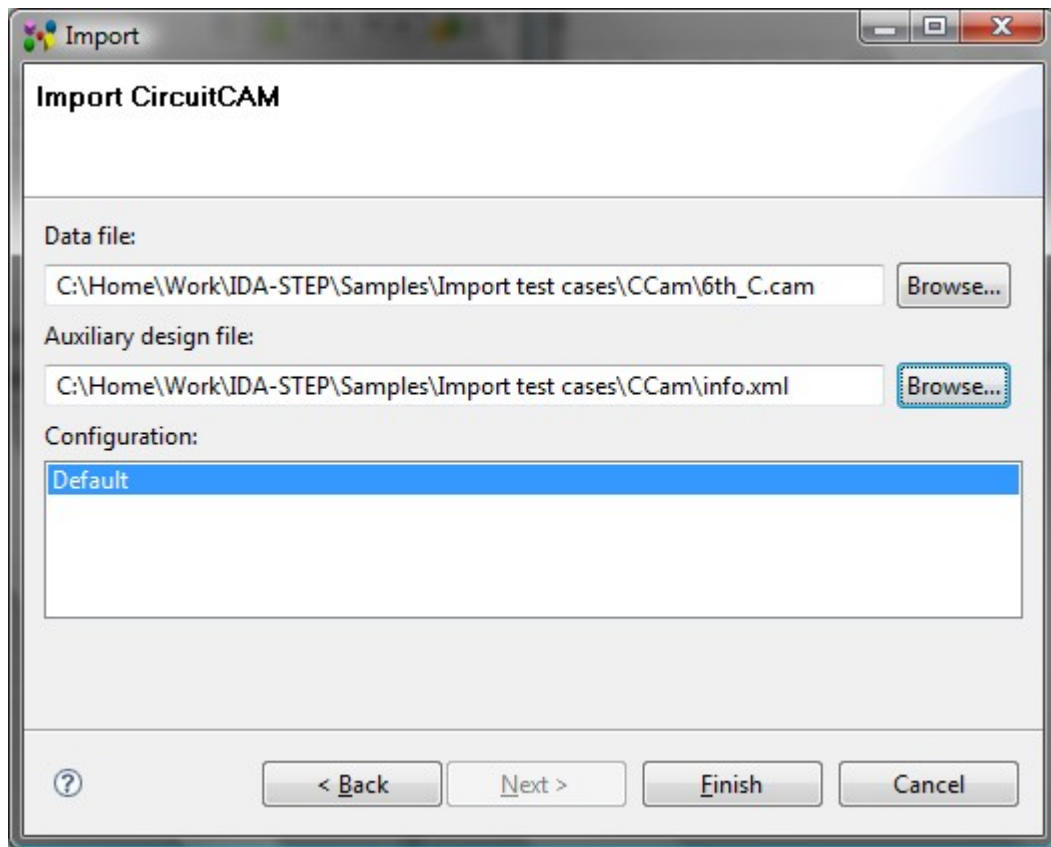

Figure 1. Import CircuitCAM wizard page
- Select **Electronics ->  CircuitCAM** item in the appeared **Import** wizard page. The **Import CircuitCAM** wizard page appears on the screen (see Figure 1):